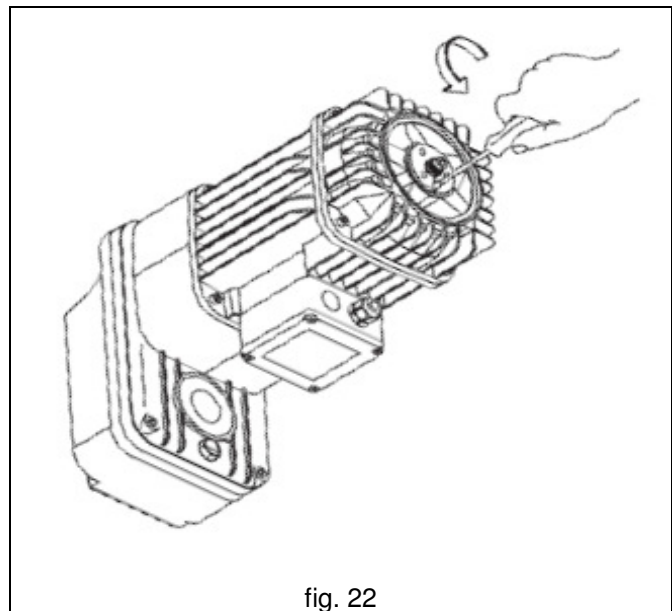

fig. 22
3. Remove the ring nut from the brake block, if necessary using a screwdriver in the slot (fig. 22);